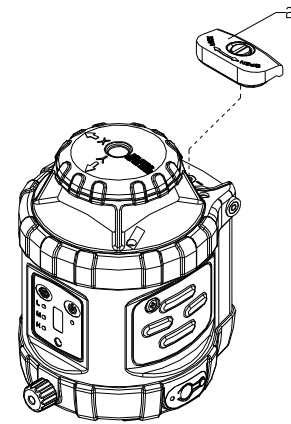

Figure 1
1. Remove battery cover (2#) by using a flat head screwdriver to loosen the battery-cover screw. Reference Figure 1. Remove the AA battery or battery pack.